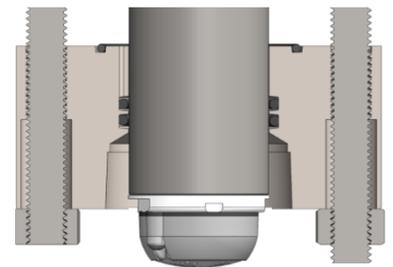

Figure 3
6. Ensure that the sensor is slid far enough into the end cap so that the sensor sleeve is pushed past the two O-rings located inside the end cap (Figure 3).